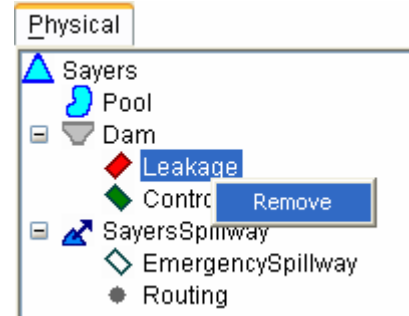

Figure 10.26 Reservoir Parameter Shortcut Menu: Remove Parameter
2. Using either the right-click shortcut menu (Figure 10.26) or the primary component's menu in the Reservoir Editor's menu bar, choose **Remove**.